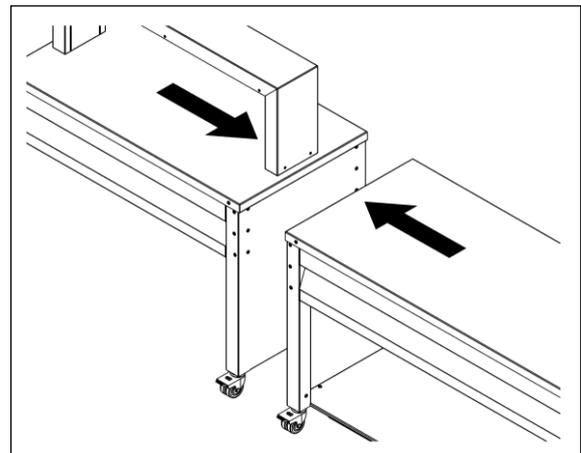

Fig. 2
3. Push together units to be connected. **Fig. 2**